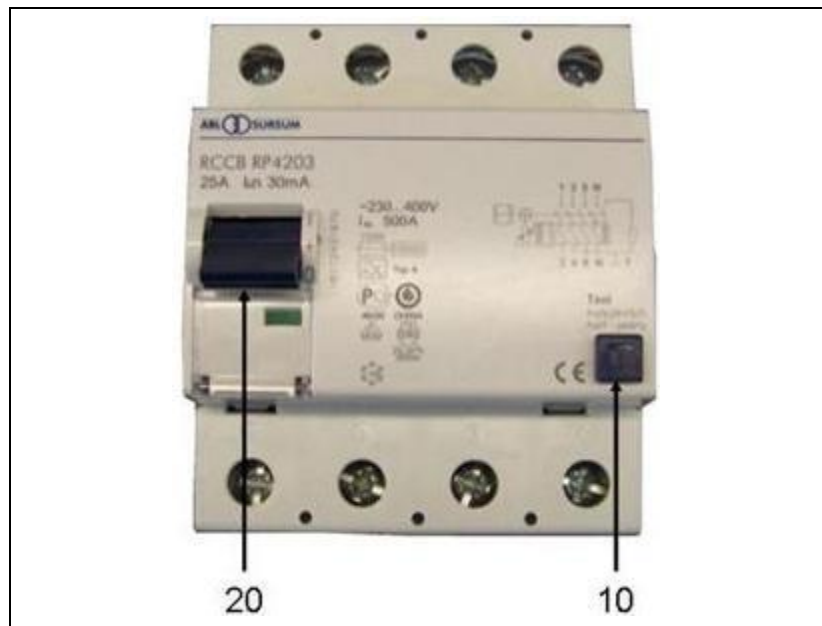

Fig. 5-1: FI protection switch
2. Additionally, every work day, the user must check the mechanical operation of the release by activating the test button (*see unterhalb Fig. 5-1-(10)*) on the residual current protection device (RCD).
2. Put the protection switch (see Fig. 5-1-(20)) into position 1.
3. Activate the test switch (see Fig. 5-1-(10)).
- ✓ The switch position displays the result (see Fig. 5-1-(20)):